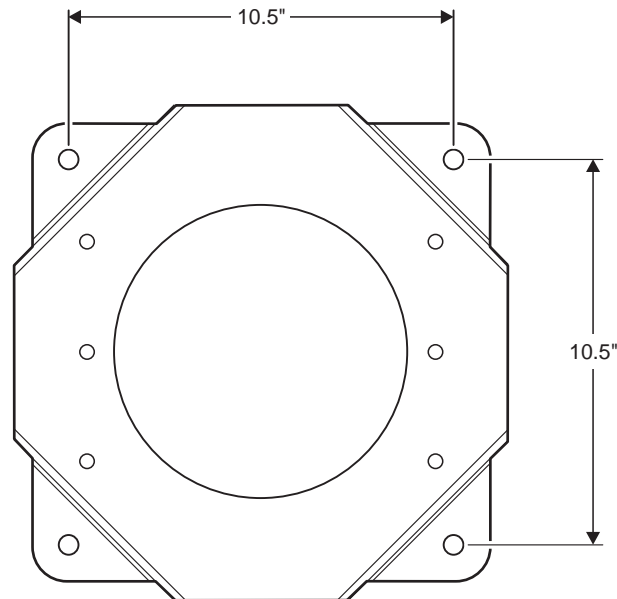

Figure 5. Base Plate Mounting Bracket
- 3 Slide the thru-bolts with nonmetallic washers through the outside slots and holes of the mounting bracket shown in Figure 5. Begin tightening the bolts into the mounting holes.
To detach either enclosure from the baseplate as shown in Figure 5 on page 12: